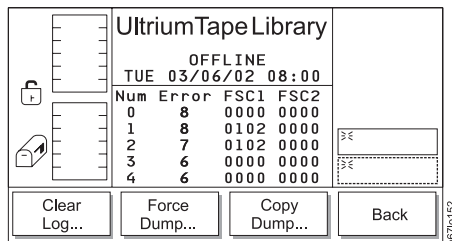

Figure 4-62. Drive Error Log Options Submenu
2. Press the button below the **More** softkey. The Drive Error Log Options Submenu displays (see Figure 4-62).
5. To return to the Drive Error Logs Options Submenu (see Figure 4-62), press the button below the **OK** softkey. To return to the Main Menu, press the button below the **OK → Back → Cancel → Back** softkeys. Continue to press the button below the **Back** softkey until the Main Menu displays.